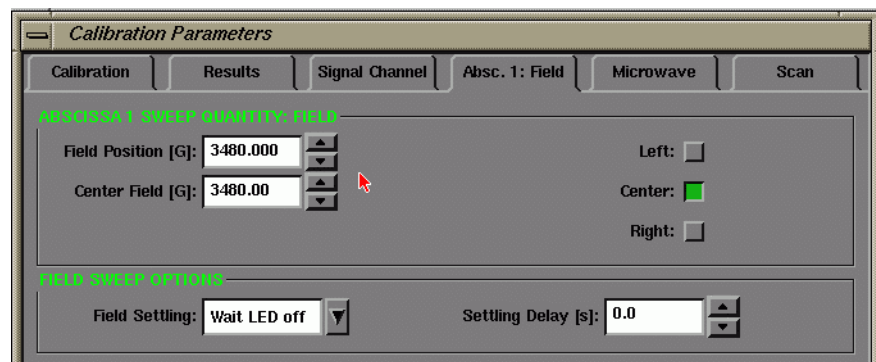

Figure 17-10 The Absc.1: Field folder of the Calibration Parameters dialog box.
13. **Center your DPPH spectrum in the display.** Click the Absc.1: Field tab. (See Figure 17-10.) Arrange the Calibration Parameters window and the Setup Scan dialog box so that you can see both of them at the same time. Make sure that the Center box is selected (green). Adjust the Center Field value by entering a field value or clicking on the up and down arrows until the signal appears centered in the Setup Scan window. For a microwave frequency of about 9.8 GHz, DPPH resonates at 3500 Gauss. Reducing the Sweep Width in the Setup Scan window can help you to center the signal.